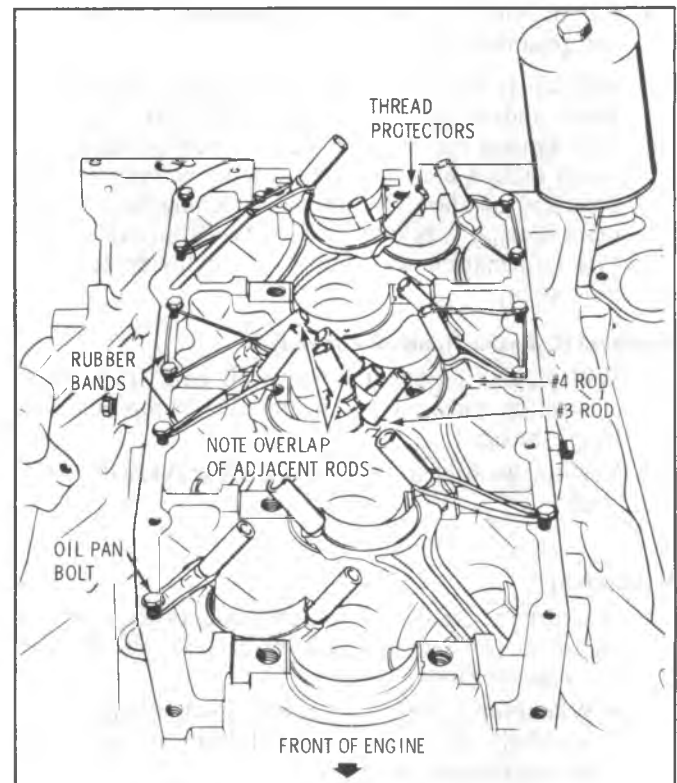

Fig. 6A6-94--Crankshaft Removal
1. With engine on stand and oil pan, oil pump and front cover removed, rotate crankshaft to the position where the connecting rod nuts are most accessible. Fig. 6A6-94 shows the engine with the #3 and #4 rods in the fully extended position.